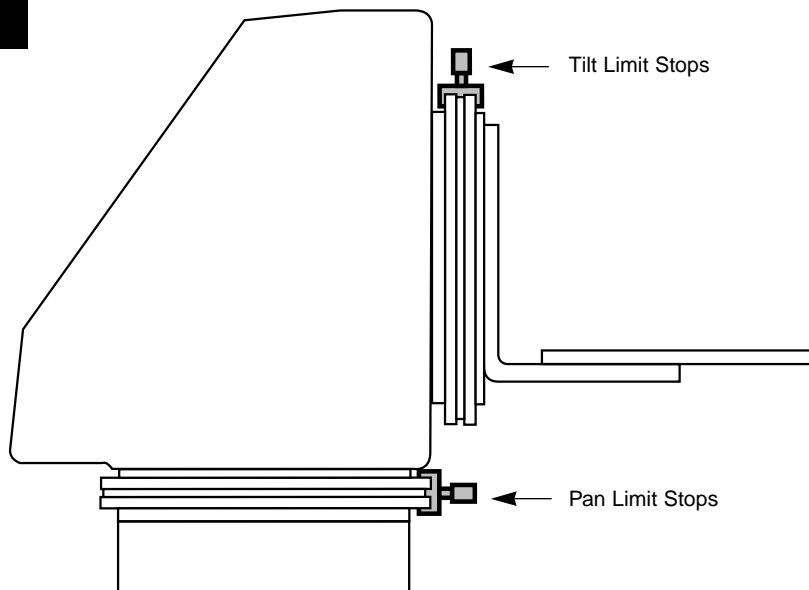

Figure 4
6. Before mounting the Camera/Lens Assembly, loosen Screws (1) and adjust the Vertical Position of the platform so that an imaginary line through the center point of the height of the Camera/Lens pair (A) would pass as closely as possible through the center of the Camera Platform Tilt axis (B). (see Fig. 4).